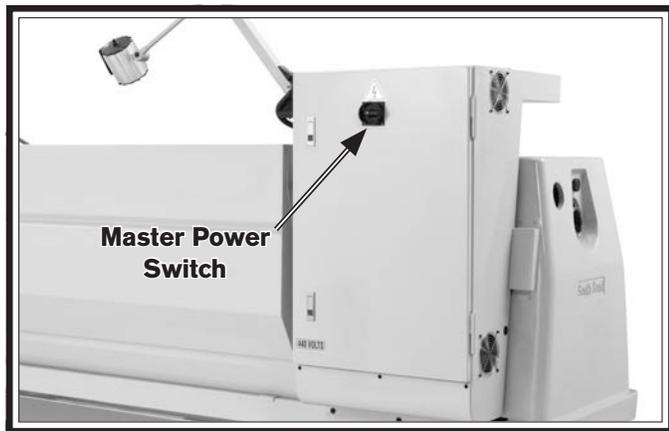

Figure 24. Location of the master power switch.
1. Make sure the master power switch on the rear of the machine is turned **OFF** (see **Figure 24**).